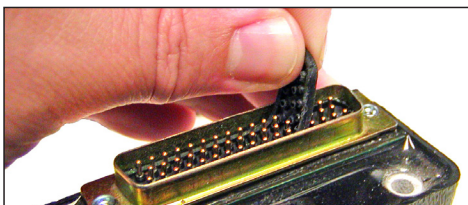
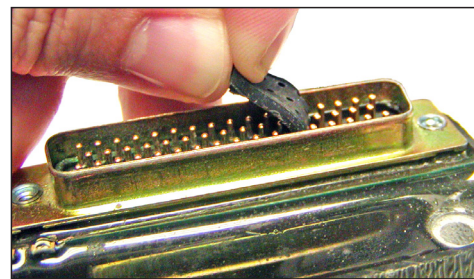

Figure 2 - Peel rubber gasket from EHC carefully, lifting gasket vertically.
Figure 3 - **DO NOT** "peel" rubber seal back on itself.
3. Remove the rubber gasket from the harness connector port (see Figure 2) and discard.
CAUTION: REMOVE RUBBER GASKET FROM HARNESS CONNECTOR PORT BY LIFTING VERTICALLY FROM PORT TO PREVENT DAMAGE TO CONTACT PINS (FIGURE 2). **DO NOT** REMOVE RUBBER SEAL BY PULLING THE SEAL BACK ON ITSELF (FIGURE 3).